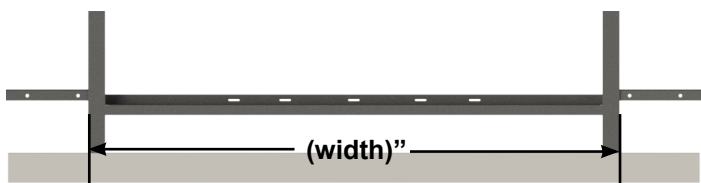

Fig.3
1. Measure frame to determine the width of the trailer (Fig. 3). Specifically, measure from the outside of the frame flange to the outside of the frame flange on the other side (Fig. 4A).